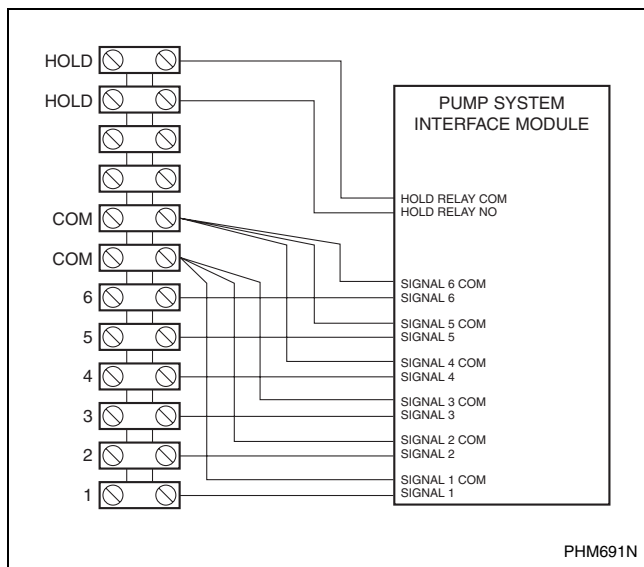

Figure 22
4. Connect all pump system signal common wires to two machine chemical signal terminals labeled "COM" (it is recommended to connect three wires to each COM terminal as drawn in *Figure 22* – each terminal can accommodate up to 3 16 AWG wires).